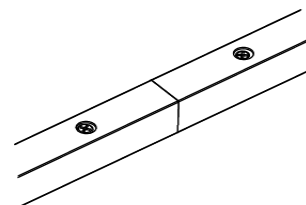

Fig. 2
2. Assemble the second rod onto the straight joint making sure that the tube ends are pushed tightly together, align the hole with the grub screw and again clamp tightly in position (see Fig. 2).